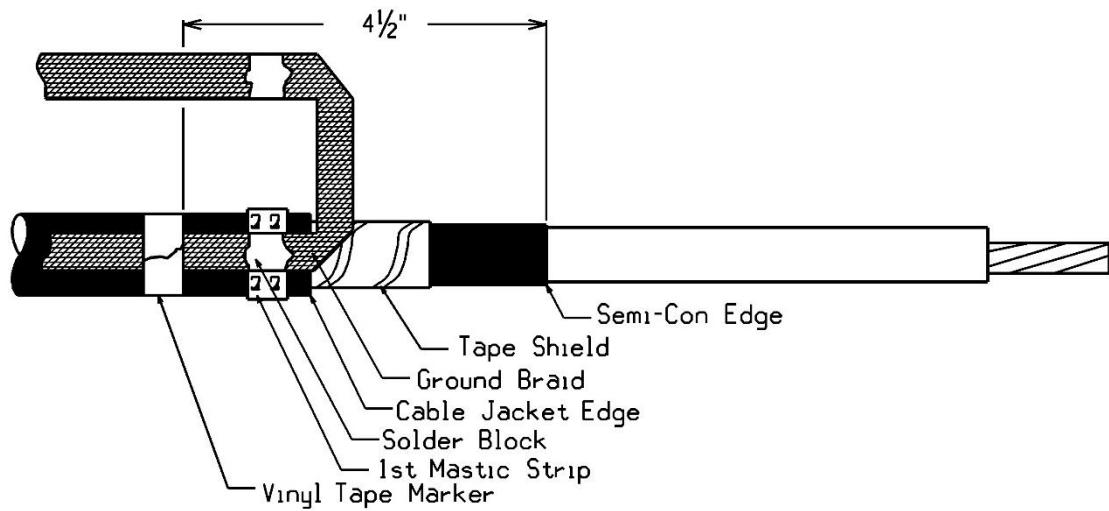

Figure 21
2. Position pre-formed "U" shaped ground braid over tape shield directly adjacent to the cable jacket cut edge. The long tails should extend over the cable jacket, with the solder block of one tail positioned over the mastic. Secure this tail to the cable jacket with a vinyl tape marker, located 4 1/2 inches from the edge of the cable semi-con. See Figure 21.